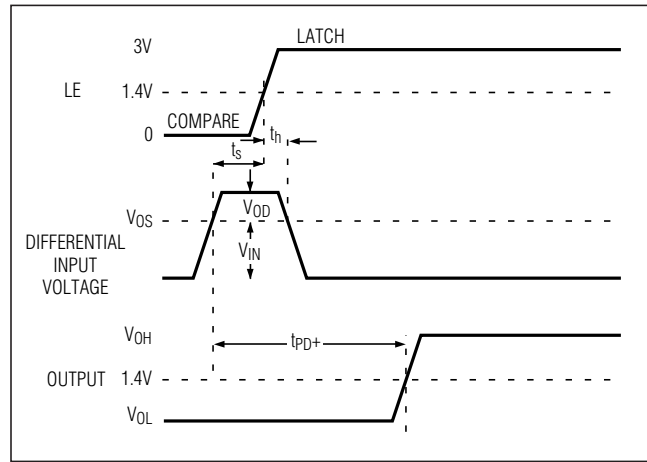

Figure 2. MAX9109 Timing Diagram
**Note 8:** Latch specifications apply to MAX9109 only. See Figure 2.
The MAX9109 includes an internal latch, allowing the result of a comparison to be stored. If LE is low, the latch is transparent (i.e., the comparator operates as though the latch is not present). The state of the comparator output is latched when LE is high (Figure 2).